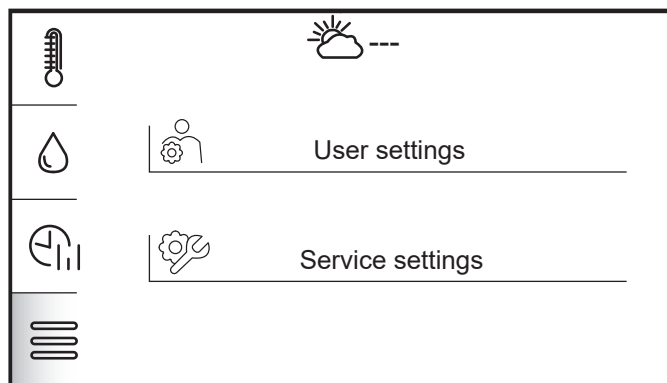

Figure 12.3: Settings selection
3. Tap settings menu. Refer to Table 7-1 and Figure 12-3.